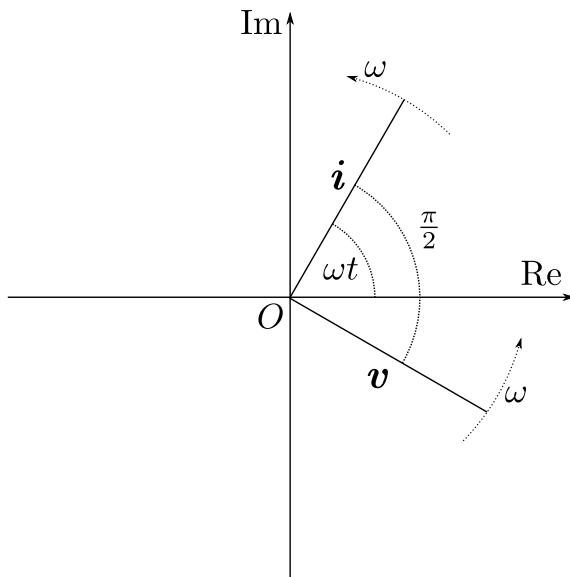

Figure 2: Voltage and current phasors for the capacitor in the circuit in Figure 3.
- ii) *Phase*: the current and voltage waveforms of a capacitor are $\frac{\pi}{2}$ (90°) out of phase, unlike a resistor where current and voltage are in phase. This results from the $e^{-j\frac{\pi}{2}}$ term in Eq. (7) and can be illustrated using the phasor representation on the Argand diagram in Figure 2.